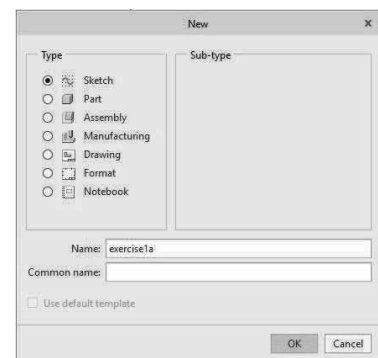

Figure 3-48 Name Sketcher File
- Step 4:** *Select* **Sketch** and name the sketch, “exercisel1a”. *Pick* **OK**. See Figure 3-48.